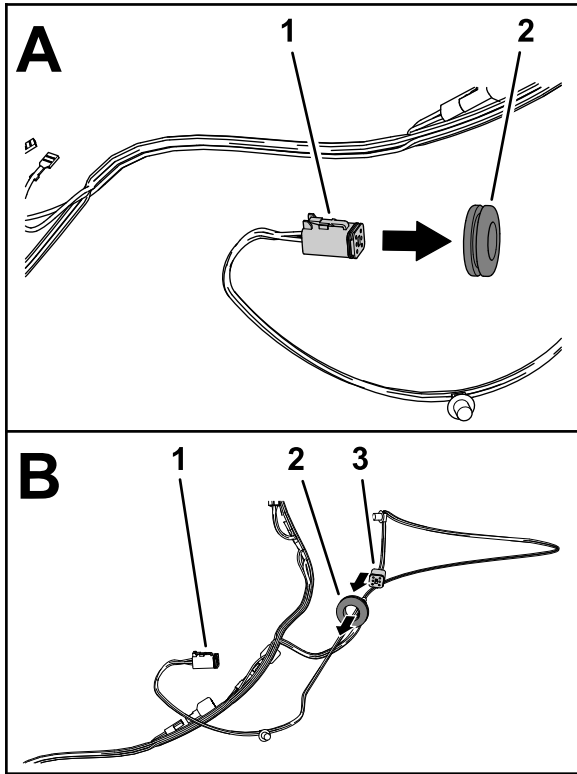

Figure 8
2. Align the 6-socket connector for the LEFT FRONT TURN/RUNNING LIGHT of the 99 cm (39 inches) wire harness branch through the grommet (Figure 8).